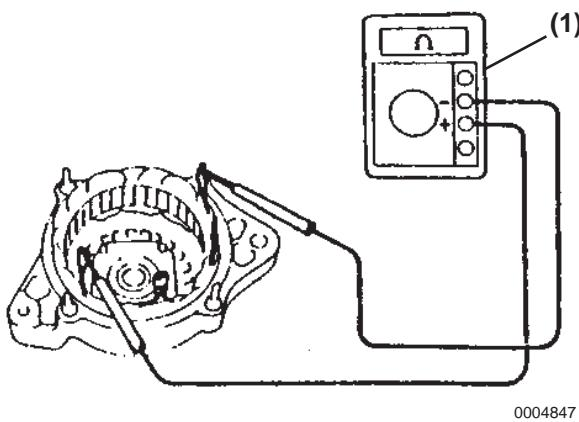

Figure 11-22
1. Using an ohmmeter (**Figure 11-22, (1)**) check the continuity of the stator drive end frame circuit. The stator circuit should have electrical continuity between the coil leads. If continuity is not measured, replace the drive end frame assembly.